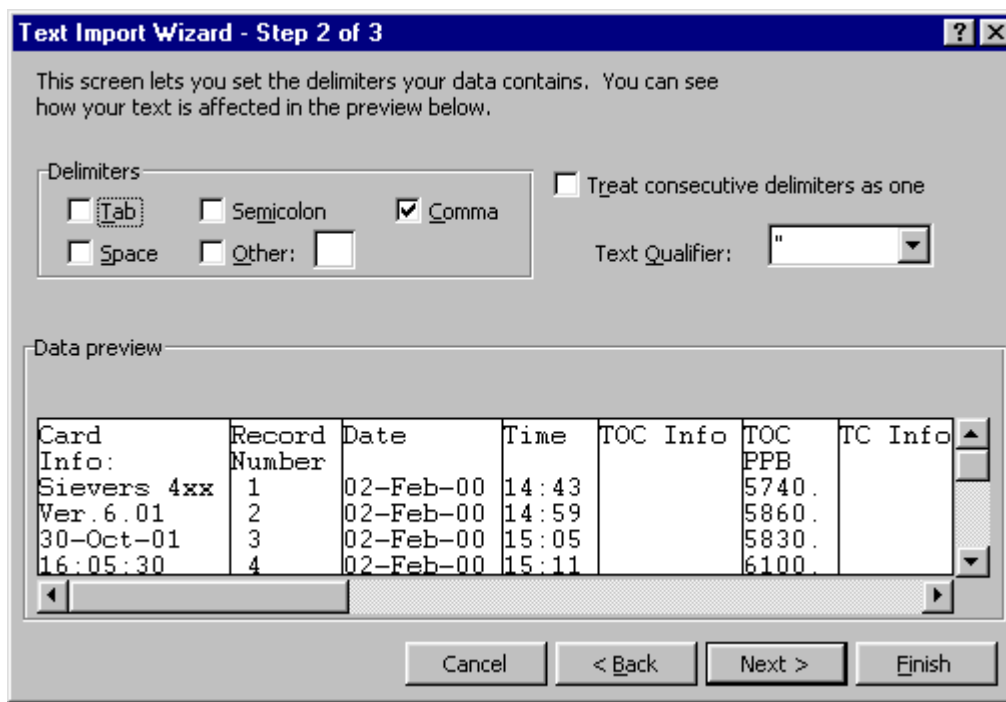

Figure 46: Step 2 of the MS Excel Text Import Wizard
7. Make sure the **Comma** check box is selected, to identify the file as being comma-delimited (Figure 46).